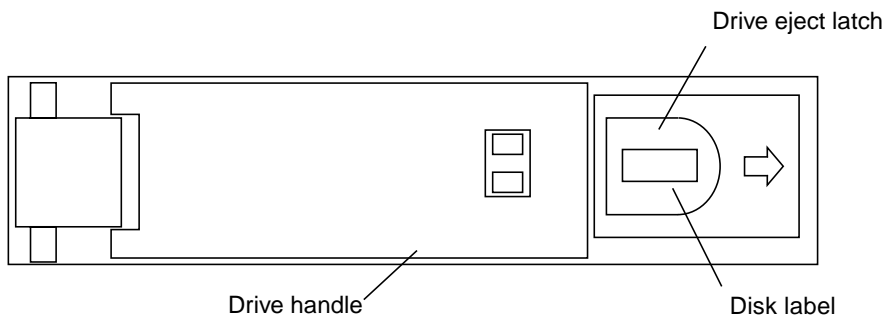
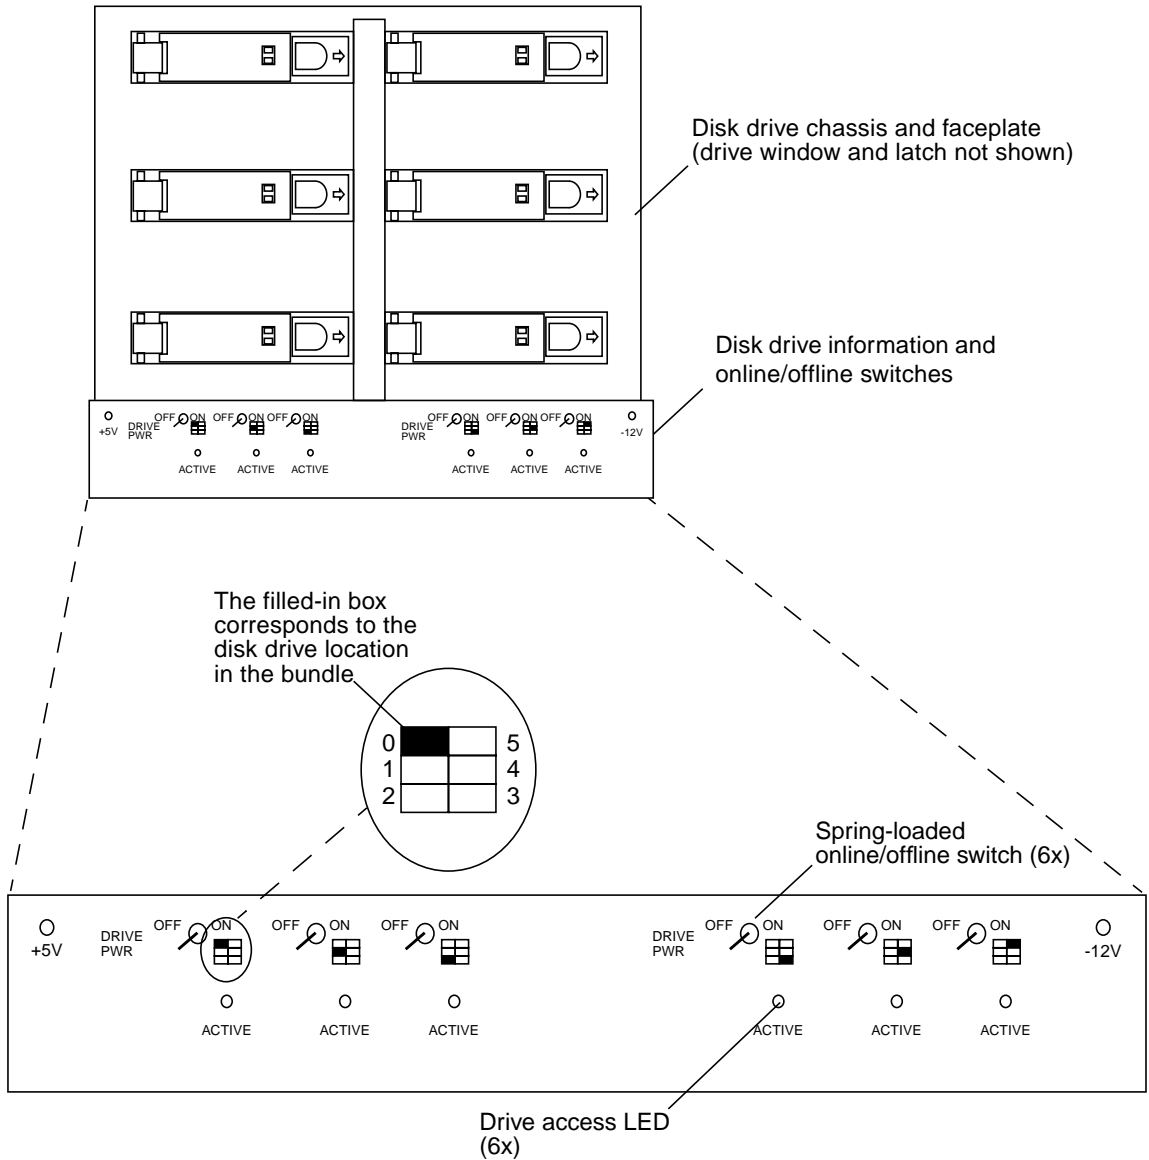

FIGURE 4-5 18-Gbyte Disk Drive
FIGURE 4-6 18-Gbyte Disk Drive Chassis
FIGURE 4-5 shows the an 18-Gbyte disk drive. FIGURE 4-6 shows a six-drive chassis for 18-Gbyte drives. Spring-loaded online/offline switches for each drive and LEDs indicating power and activeness for the drives are on the lower front portion of the faceplate of the six-drive chassis.
- a. Find the appropriate disk drive location as indicated on the lower portion of the drive chassis faceplate. See FIGURE 4-6.
4. Push the drive eject latch to the right to release the disk drive handle. See FIGURE 4-5.